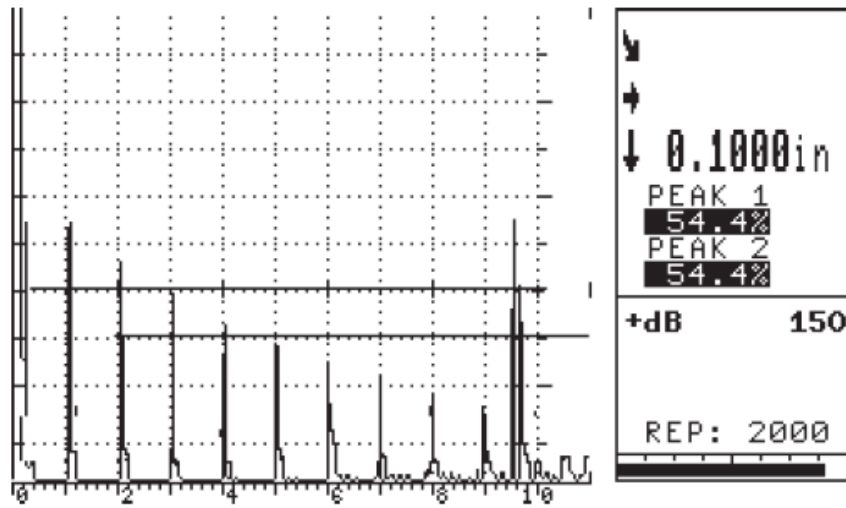

Figure 5-32
11. Place the transducer on the thinnest step (0.100 inch). Verify proper Gate1 and Gate2 positioning, as above (the thickness gauge starts the measurement with the 1st echo to break Gate1, and stops the measurement with the 1st echo to break Gate2). Press the THK CAL softkey, and rotate the SmartKnob until the THK CAL value for CAL PT1 reads 0.100 inch. Press ENTER to log this value (Please refer to **Figure 5-32**).